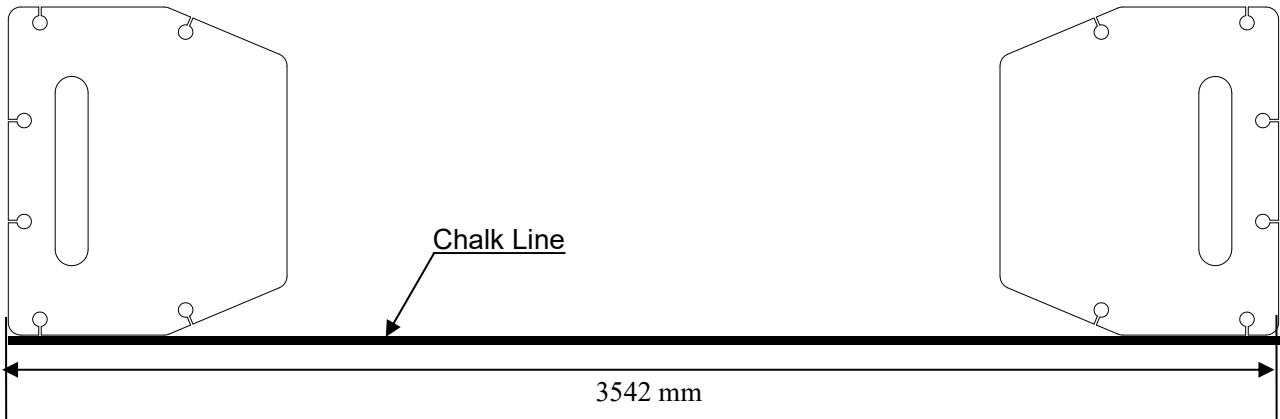

Fig. 7
B. Use a carpenter's chalk line to establish installation layout of base-plate (See Fig. 7).